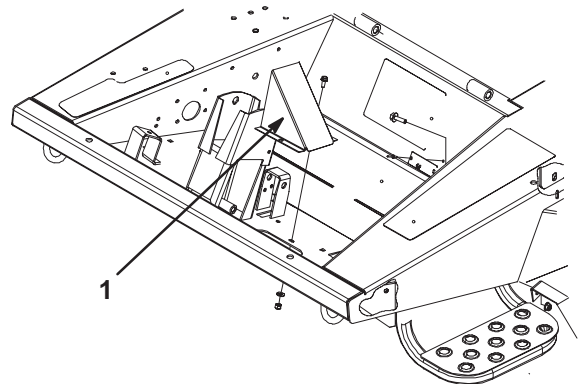

Figure 6
9. Remove the steering tube cover located to the left of the steering column (Fig. 6).
18. Install the steering tube cover (Fig. 6).